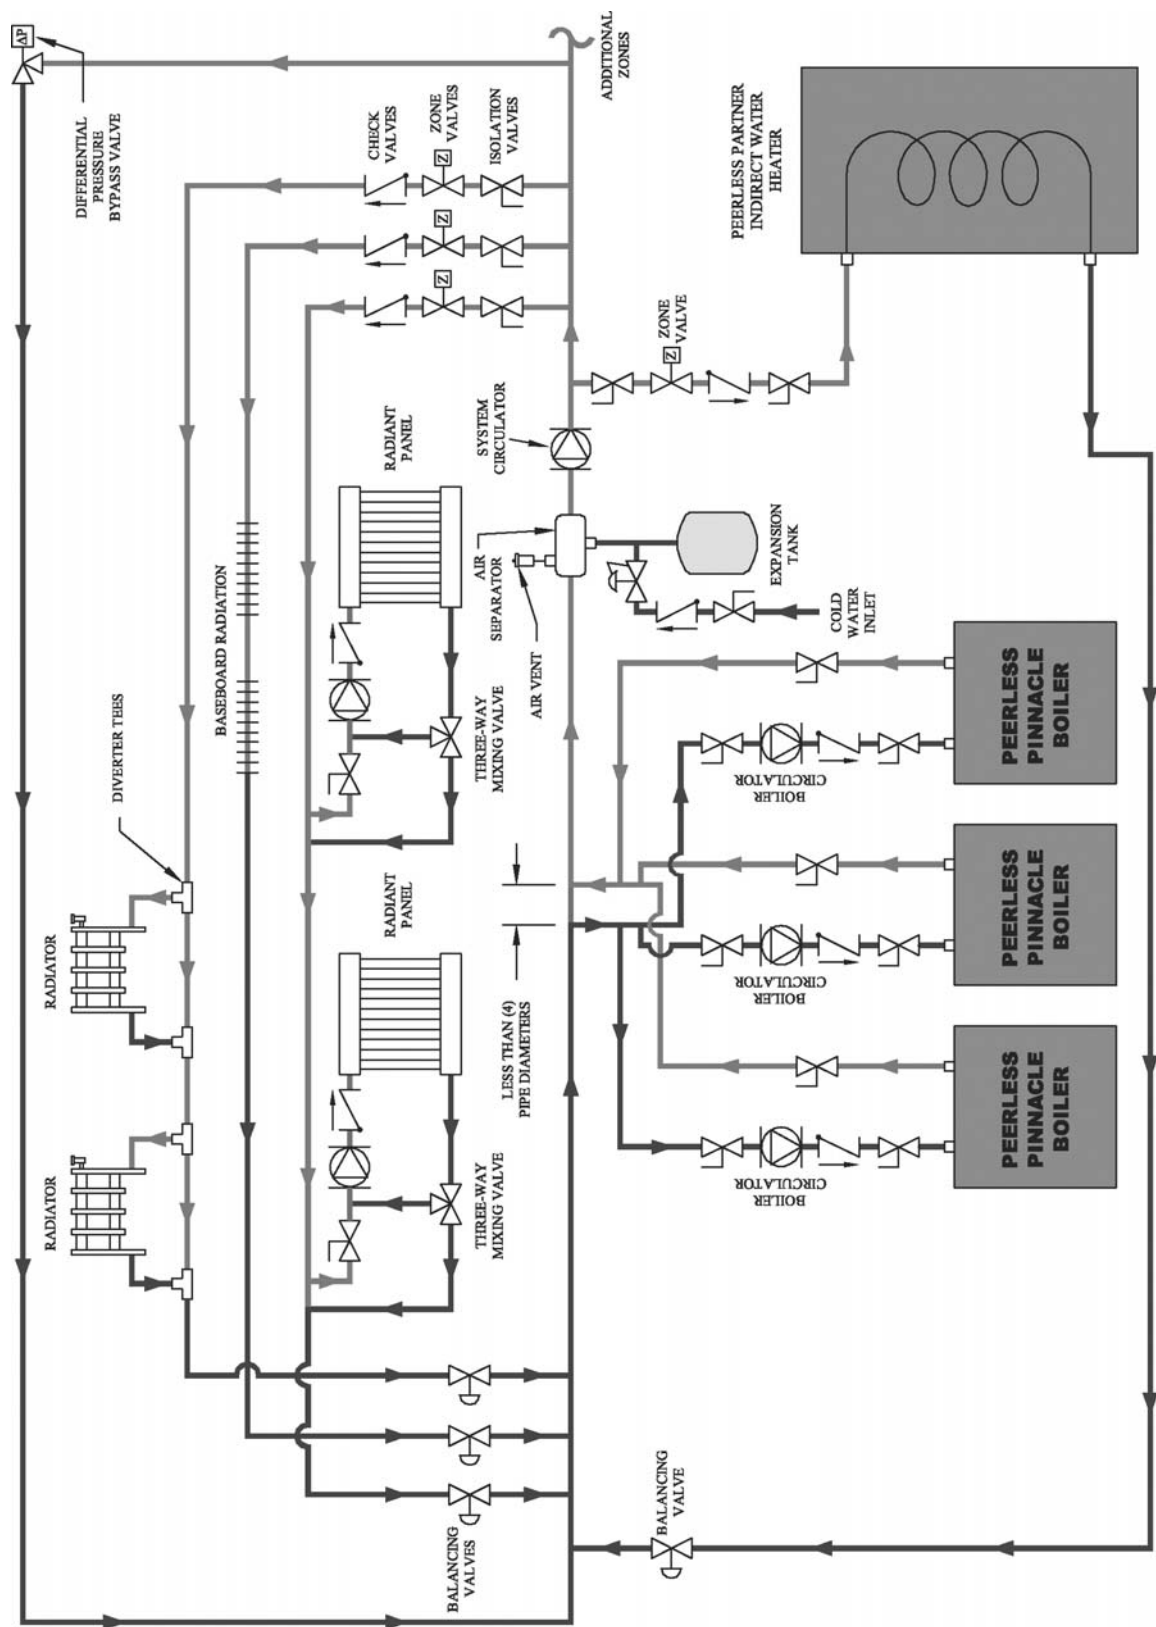

Figure 3.7
- Zone Valves: Figure 3.7 shows a system in which zone valves are used in place of zone circulators. Notice that this system utilizes reverse return piping (where the first zone supplied is the last zone on the return), which makes it easier to balance the system. If the heating loops are very different in length, then the balancing valves, shown on the return side of each loop, are required.